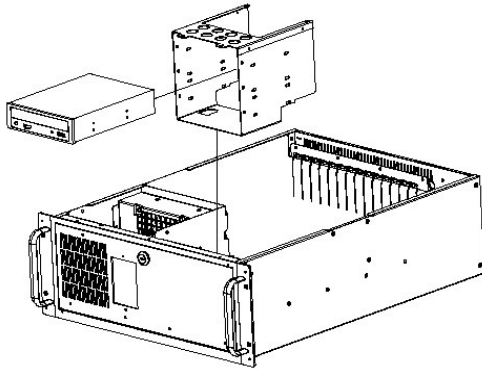

Figure 2-13. Installing a 5.25" Device
7. Lift the drive bay up and remove it from the unit. See Figures 2-13 and 2-14.